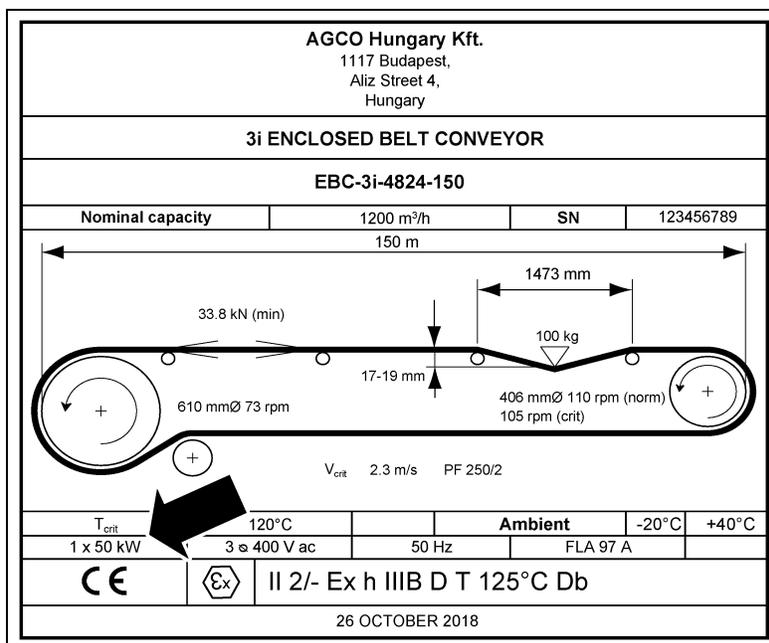

Figure 2D
5. Where the elevator is installed in ATEX zone 21D, bearing temperatures shall be monitored, in accordance with T_{crit} give on the elevator rating plate. This is the critical temperature which if exceeded shall result in elevator shut down. In the event, the bearings should be checked for signs of failure, loss of lubrication and should be replaced or repaired before re-starting the elevator. (See Figure 2D.)